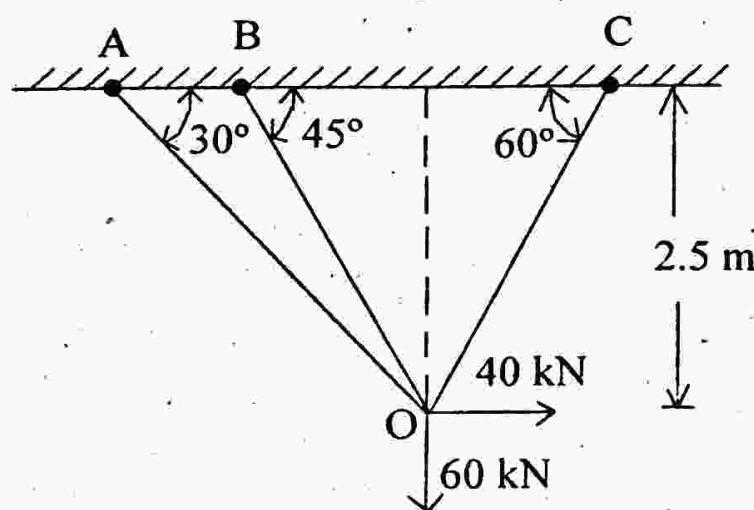

Fig. 5
5. Analyse the pin jointed truss shown in Fig. 5 by Direct Stiffness Method. Take area of cross section of members as 1000 mm^2 and modulus of elasticity $E = 200 \text{ kN/mm}^2$. Also find out support reactions. 13